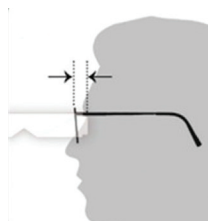

FIG. 19
**Measure back vertex distance (BVD):** Use a distometer tool, if available, to measure the back vertex distance from the back of the lens to the patient's corneal apex. If a distometer isn't available, use the millimeter ruler (Fig. 19). The standard default is typically 13 mm.